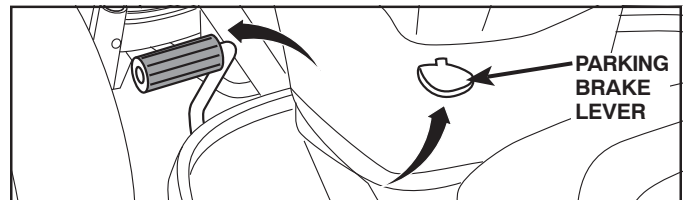

Fig. 3
## TO INSTALL MOWER AND BLADE DRIVE BELT (See Figs. 3 - 16)
1. **SET PARKING BRAKE LEVER AND LOWER ATTACHMENT LIFT LEVER (See Fig. 3 and 4)**